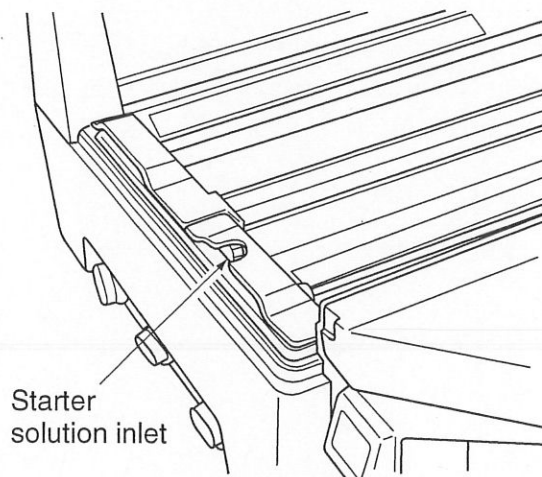

fig.30
- ⑦ Pour the starter solution into the starter solution inlet in the developing tank. (fig.30)
- ⑧ Close the top cover.